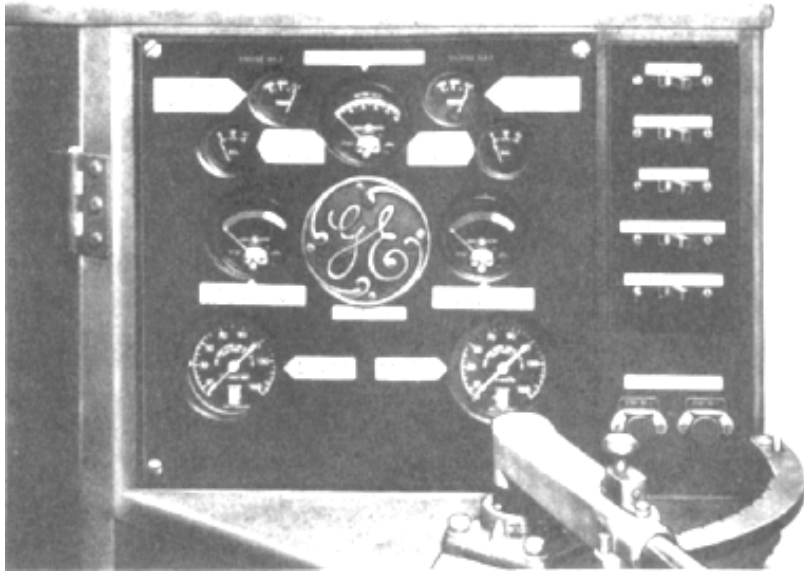

Fig. 5B. Gage panel
11. *Observe oil-pressure gage.* (See Fig. 5B.)
2. *Observe main-reservoir air pressure.* (See Fig. 5B.)